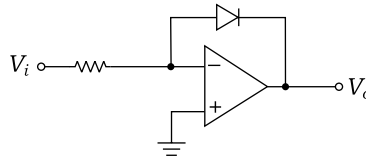

Fig. 7.101
17. The circuit shown in Fig. 7.101 uses an ideal OPAMP. For small positive values of V_i , the circuit works as